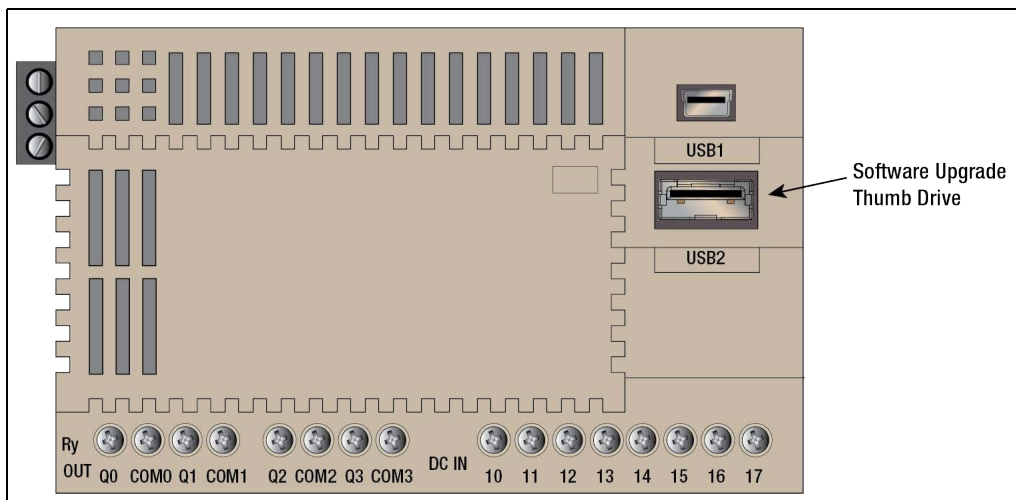

Figure 22. FCC USB Ports
3. Open the door of the FCC and with the power to the FCC On, plug the upgrade thumb drive into the FCC USB2 port on the rear of the FCC Display (see Figure 22).